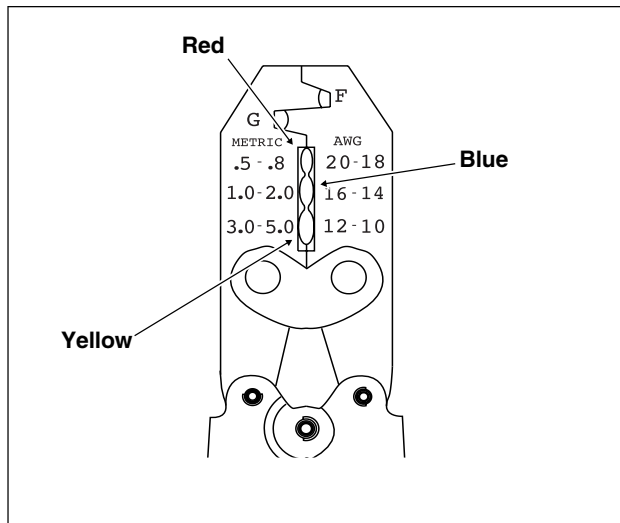

Figure B-40. Packard Crimp Tool (HD-38125-8)
- Determine the correct dye or nest for the crimping operation. Match the color or gauge wire marked on the butt splice connector with the corresponding crimp cavity on the crimp tool. See Figure B-40.